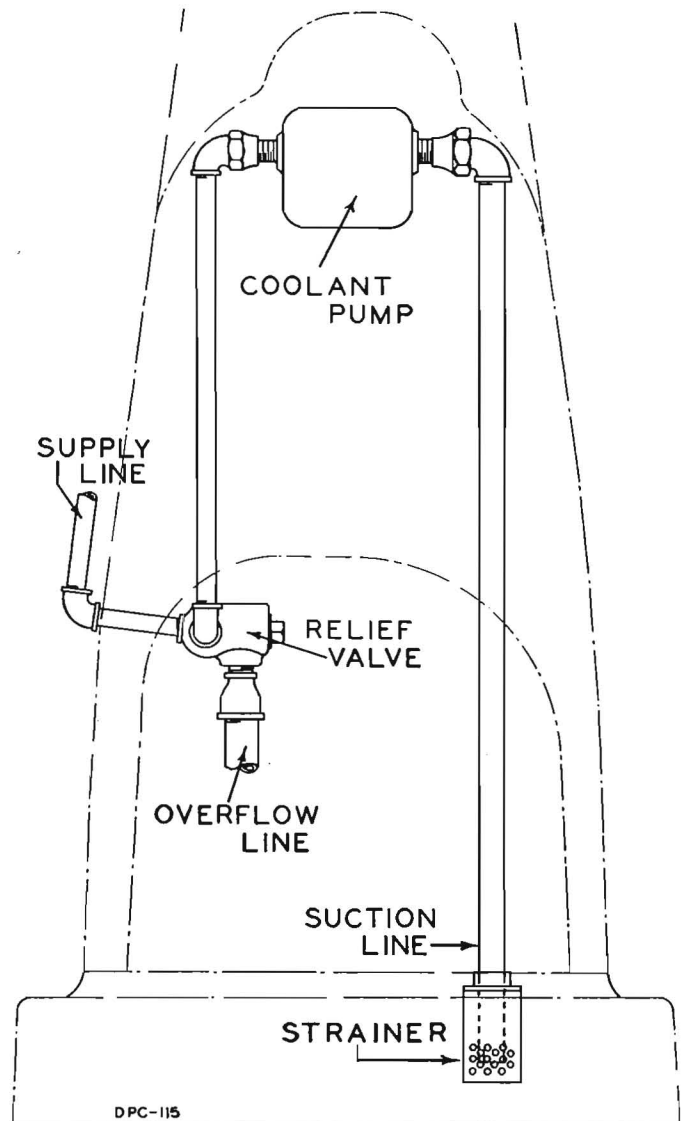

FIGURE 22
2. Disconnect two unions, one on either side of pump. See Figure 22.
**NOTE:** When re-assembling pump to pulley bracket, clean both surfaces thoroughly and re-seal with G. E. 880 or its equivalent to prevent coolant water leakage and to prevent air being sucked into pump system. In regular operation, it is well to clean strainer on suction line of pump once a week. This will prevent air being taken into system and causing coolant to spurt intermittently from supply pipe, and also to prevent coolant water from foaming. See Figure 22. If through evaporation of water, or any other reason the oil content of the water is excessive, coolant will foam. The addition of kerosene will usually correct this condition.